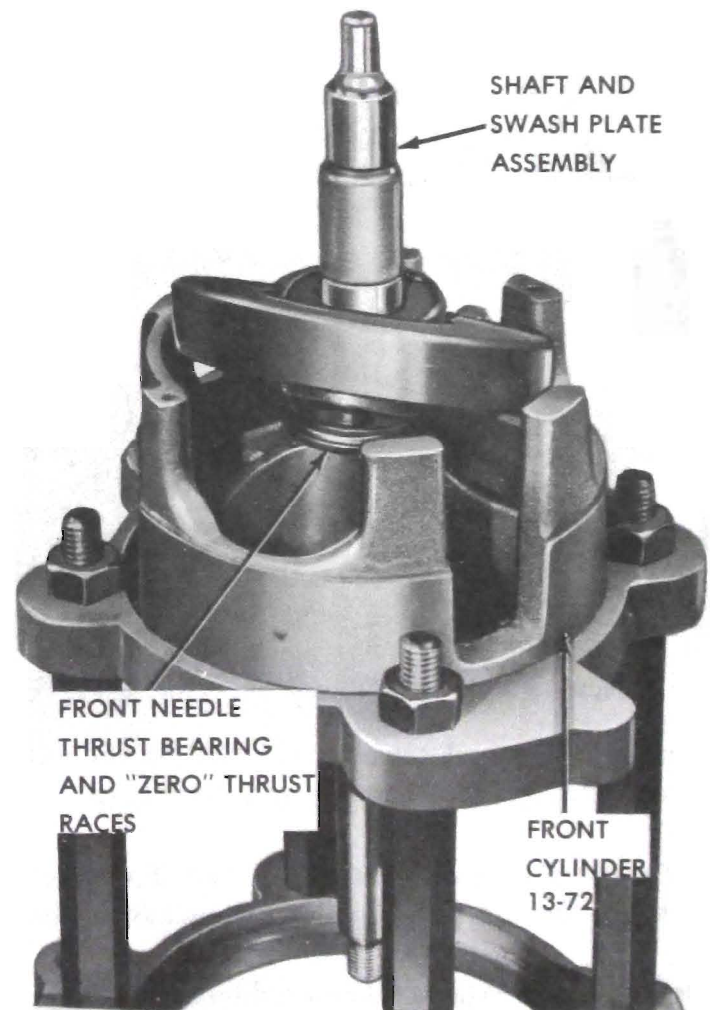
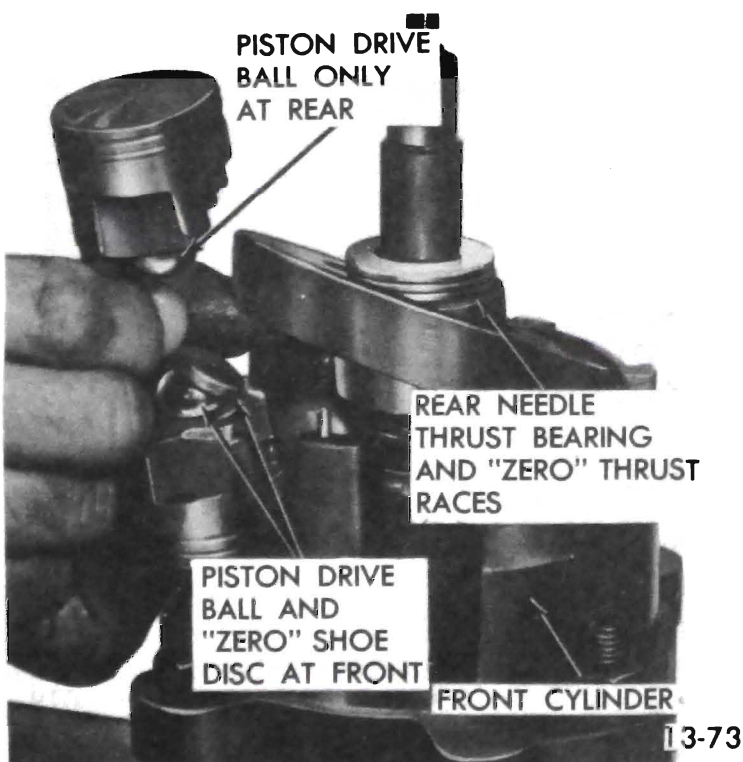

Figure 13-55 Shaft and Front Needle Thrust Bearing in Cylinder Half
Figure 13-56 Installing Piston into Cylinder Half
2. Place front cylinder on top of compressing fixture (J-9397) as shown in Figure 13-55.
3. Generously coat with clean petroleum jelly two "zero" thrust races, and a new needle thrust bearing. Assemble races and bearing to front end of shaft and swash plate assembly and insert assembly into front cylinder (see Figure 13-55).
7. Rotate shaft and swash plate assembly until high point of swash plate is over No. "1" cylinder bore. Position No. "1" piston onto swash plate (see Figure 13-55) and lower the piston and swash plate so the front end (notched end - see Figure 13-56) of the piston enters the cylinder bore.